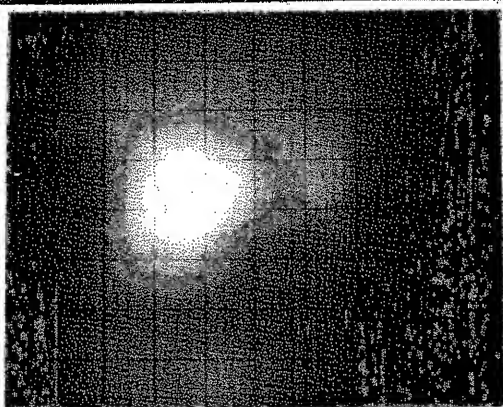

Figure 3-7. Fade positive after 2 to 4 minutes in STD mode.
g. Fade positive. Appears as random green areas on a dark background in MAX PERSISTENCE mode, figure 3-7.